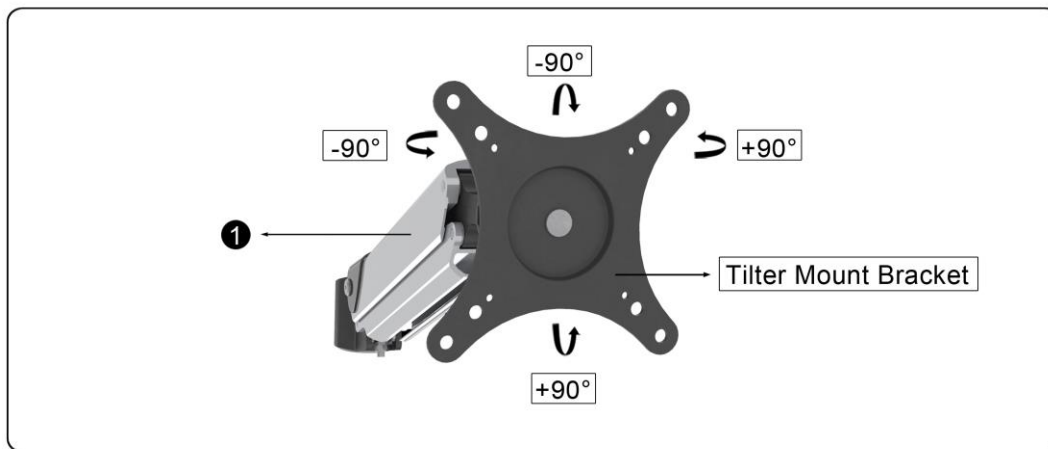

Figure 2-1
1. Ensure the VESA bracket **(1)** can swivel and tilt easily **(See Figure 2-1)**. If necessary, adjust the tension before proceeding to the next step.